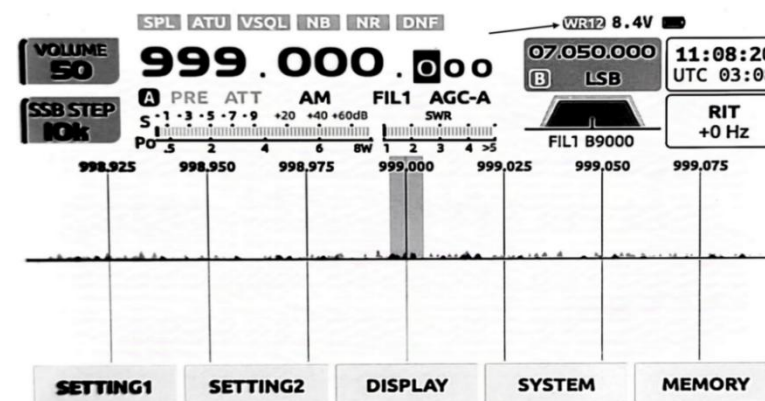

Fig.5
3.1 After the WR12 component is correctly connected to the X6200 host according to the connection method mentioned above, a blue WR12 logo will appear in the upper right corner of the X6200 main interface, as shown in Fig.5.